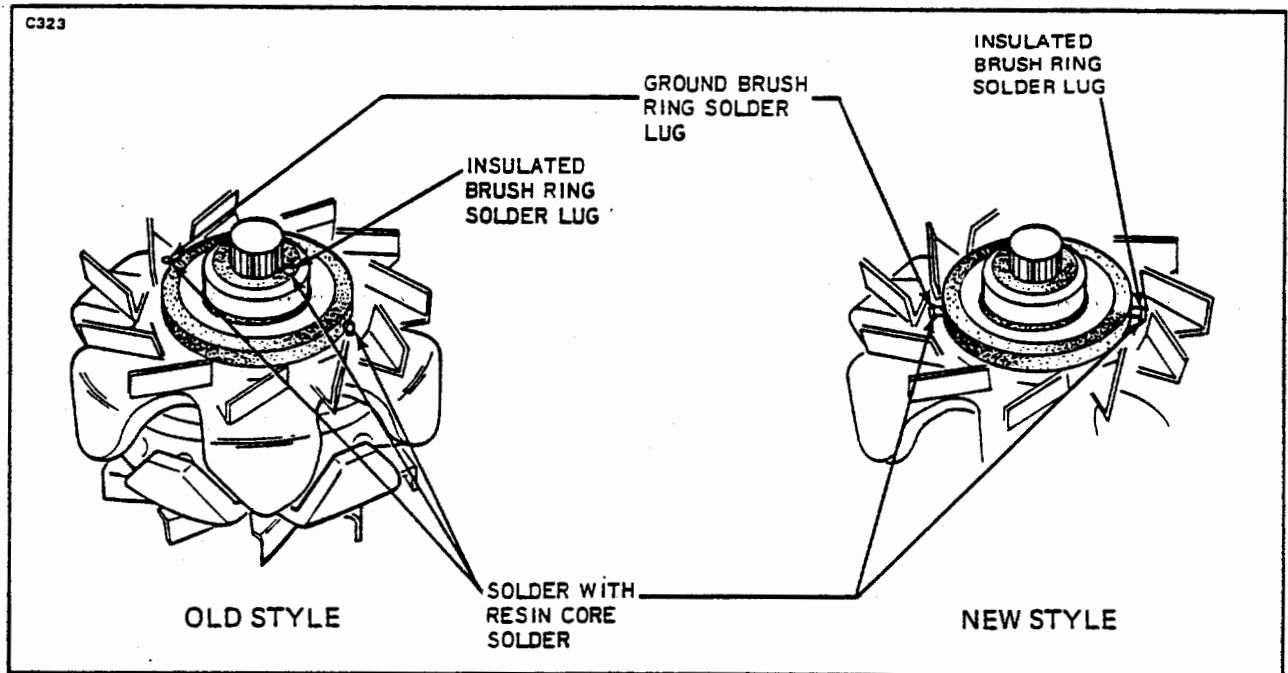

Figure 11-59. Solder Points
8. Unsolder the guide wire from the insulated slip ring lead. Press the field lead into the solder lug and solder to lug with rosin core solder. (Refer to Figure 11-59.) Solder securely but do not leave an excessive blob of solder on rotors equipped with grease retainer.
b. New Style: (Refer to Figure 11-59.)